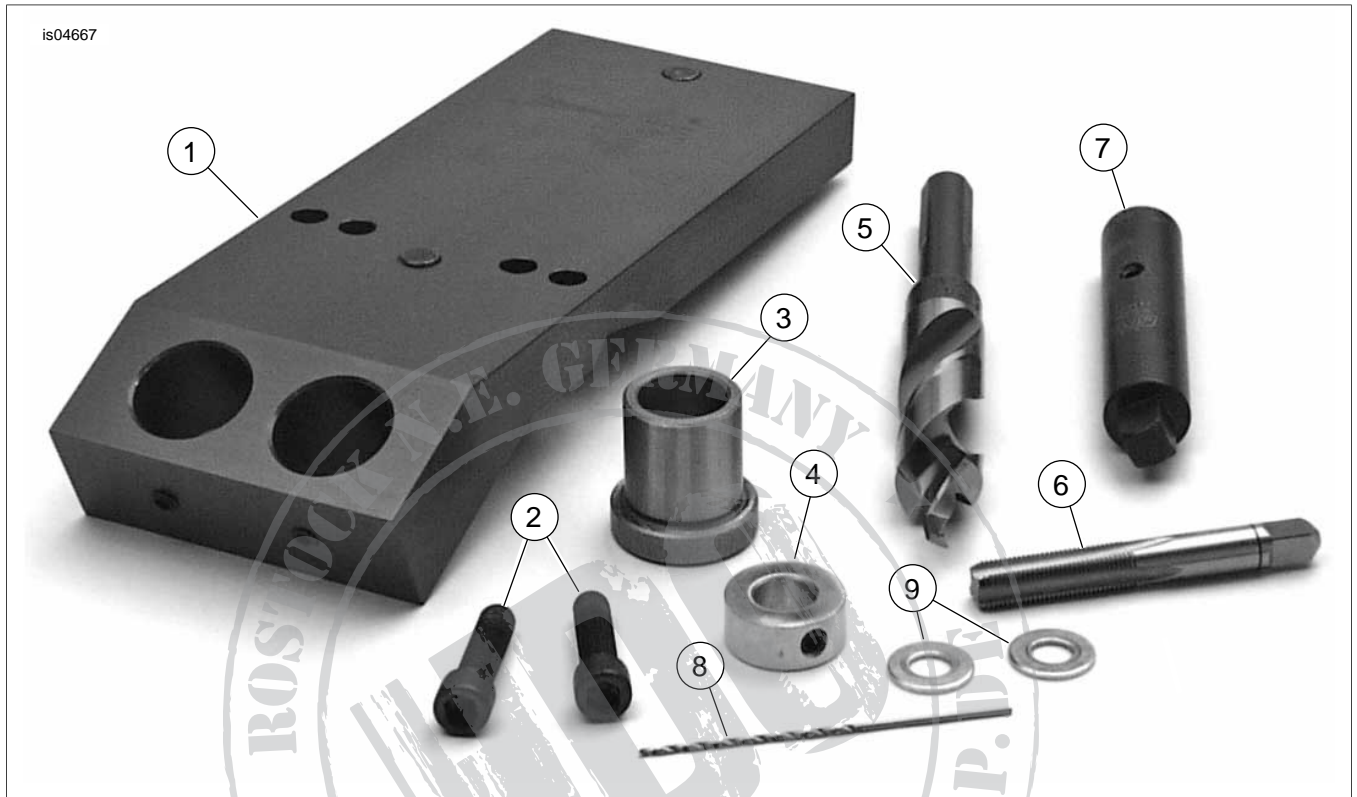

Figure 6. Kit Contents for Screamin' Eagle Mechanical Compression Release Tool
See Figure 6 and Table 1.
2. See Figure 1 and Figure 6. Secure the fixture (1) to the head with two 5/16-18 socket head cap screws (2) and washers (9) included in the kit. Install the screws in the holes marked "F" when modifying the front head or in the
3. See Figure 3 and Figure 6. Install the drill bushing (3) in the bore marked "FRONT" when modifying the front head or in the bore marked "REAR" when modifying the rear head.
5. See Figure 2 and Figure 6. Install collar stop (4) onto the 1/2 inch diameter shank of the step drill bit (5). Secure the collar stop with the set screw 3.900 inches (9.90 cm) from the beginning of the 3/4 inch diameter step of the drill bit.
- a. See Figure 4 and Figure 6. Insert tap (6) into tap holder (7).